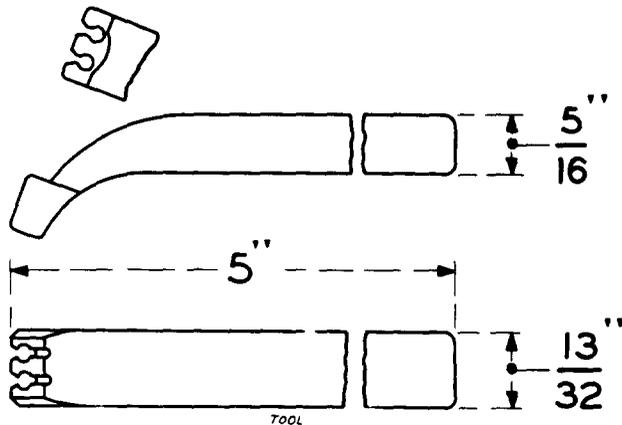

Fig. 7—511A Holder Tool
2.09 **511A:** The 511A holder tool (Fig. 7) is a bar of insulating material used for holding the numbers 3, 32, or 33 sleeving for cleaning the feeder brush contact patch on the rotor hubs of 200- and 206-type selectors.